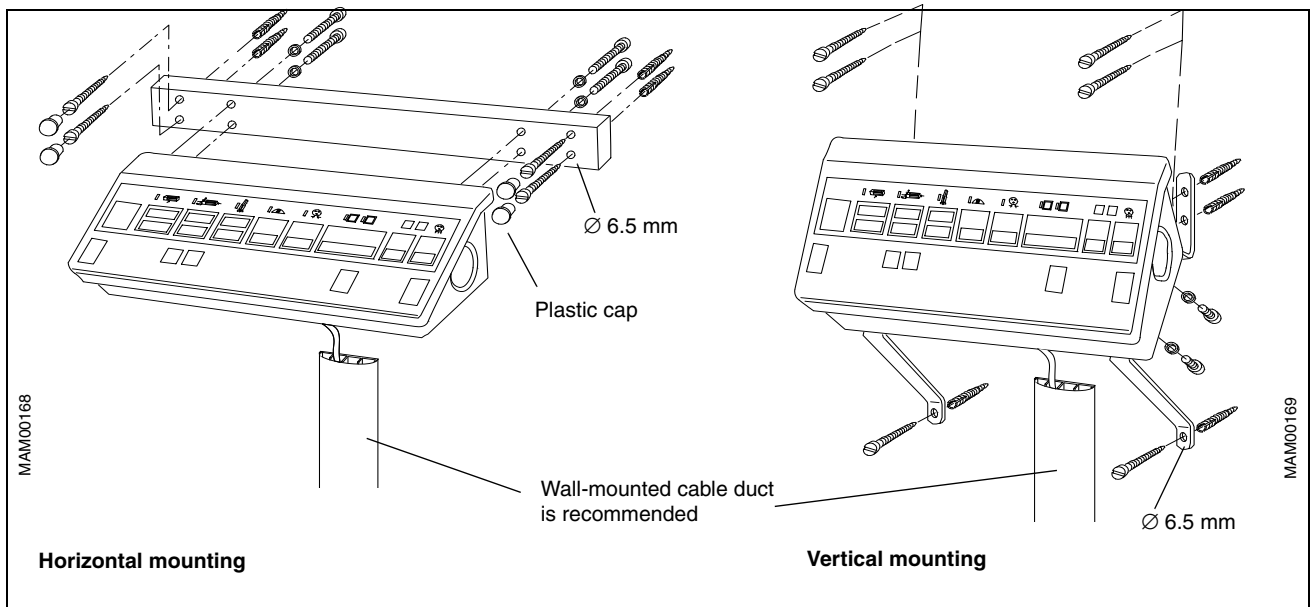

Fig. 4 Wall-mounted control console
- to the wall – horizontally or vertically as shown in Fig. 4 below